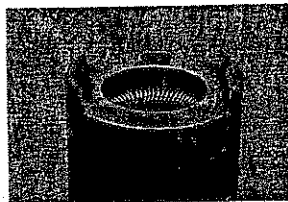

FIG 5. Garter Spring Location
- Step 4. Inspect the Stationary Module and ensure that the inner garter spring is present and properly situated in the groove (Figure 5). A replacement garter spring is available from Sherex/OPW customer Service. For the ILB-1, ILB-H and ILB-2 order spring P/N 42024. For the ILB-5 and ILB-6 order spring P/N 42007.